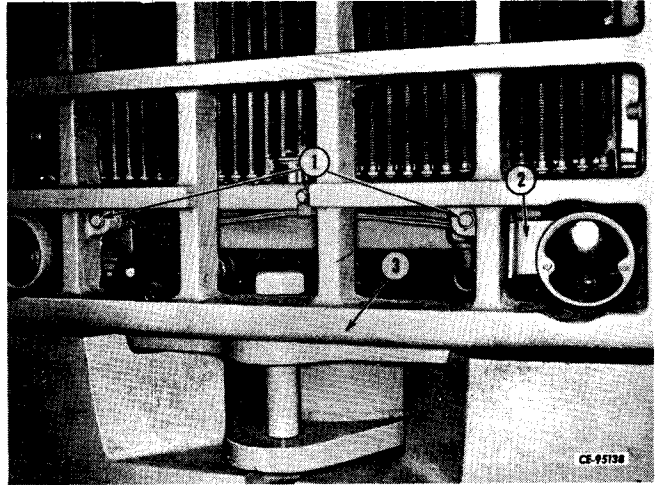

Figure 2-30
Connect tagged electrical wires to top rear driving lights. Connect lower electrical wires to stop lights before installing tail light brackets to grille (3, Fig. 2-30). Insert tail light brackets inside grille. Install and tighten cap screws and nuts (1).